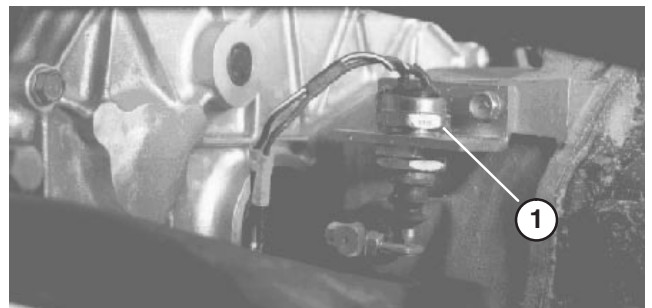

Figure 45
7. Recheck clutch safety switch adjustment (Fig. 45). Engine must not crank unless clutch pedal is $1.25" \pm .25"$ from floor. If an adjustment is required, loosen switch jam nuts and adjust up or down.